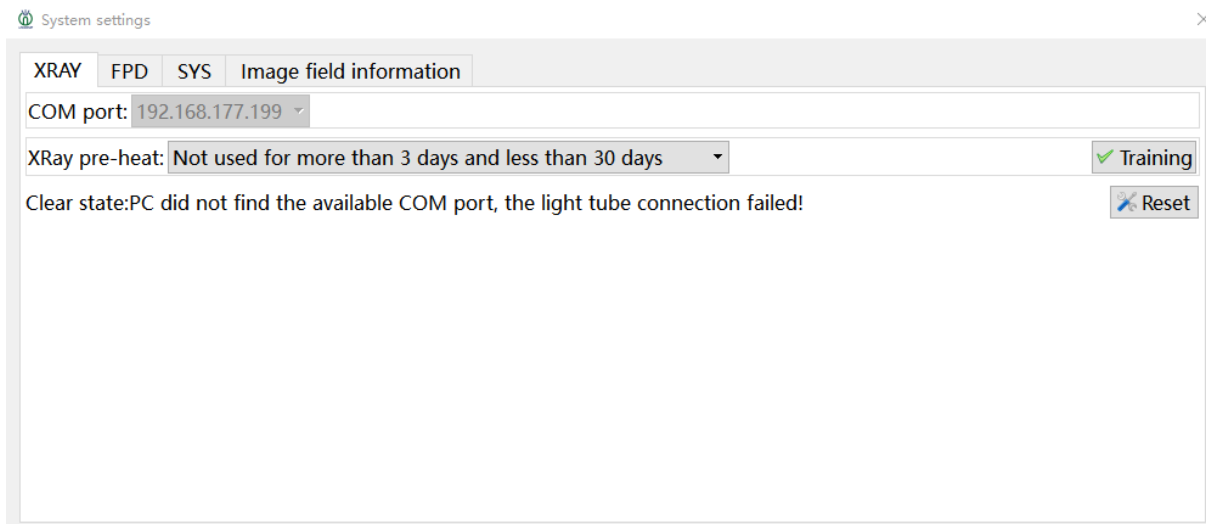

Fig. V-81 Ray Tube Setting
Ray tube setting provides functions such as management and setting of X-Ray tube and HV generator. Enter ray tube setting interface via "**Setting (S)**" → "**System Setting...**" → "**Ray Tube**" in the menu bar (Fig. V-81).